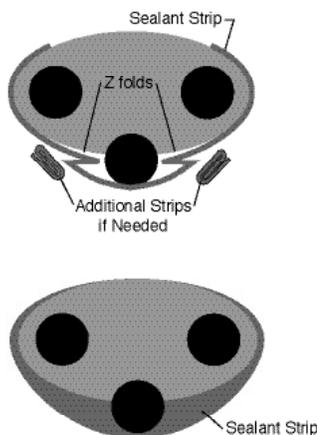

Fig. 32
4. Press the 3rd cable into the center of the sealant core. Wrap 1 strip of sealant (provided in kit) around all cables starting 1 inch beyond 1 of the larger cables and Z-fold sealant between larger cables and smaller 3rd cable. Additional 2 inch cut and folded strips of sealant may be needed between large and small cables to eliminate voids (Fig 32)